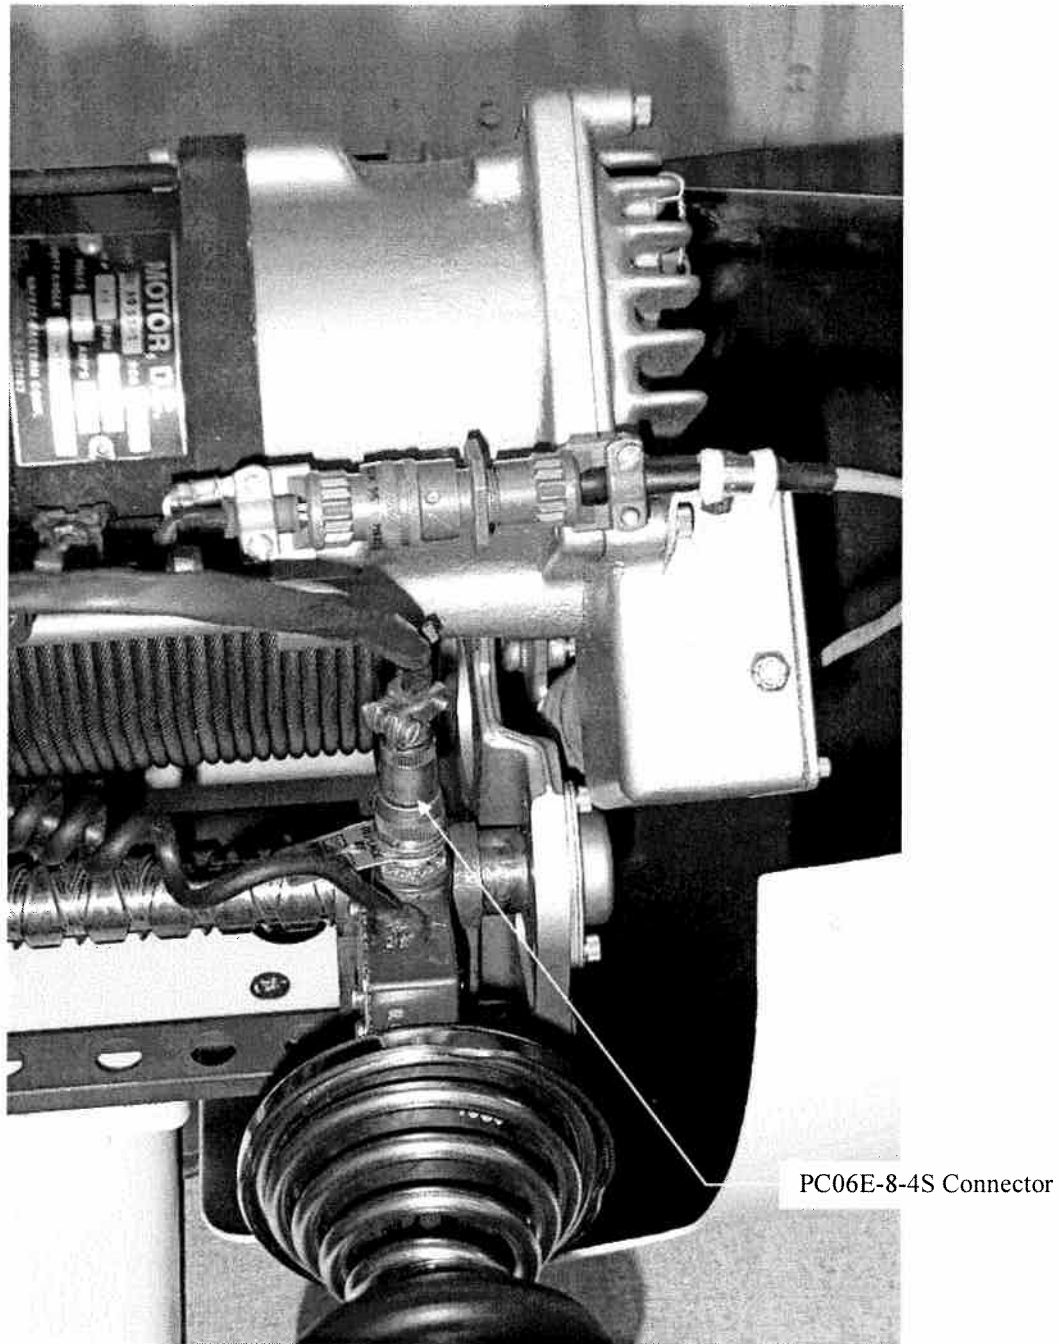

Figure 1
NOTE: The modification in this bulletin is not required if no interference is found between the Hoist Motor and the backshell of the Connector (Ref. Figure 1).
1. Disconnect P11 (PC06E-8-4S) from the Cable Cutter squib located on the level winder of the hoist (Ref. Figure 1).
4. Install the PC06P-8-4S Connector of the AAI Modification Cable into the Cable Cutter squib (Ref. Figure 1).